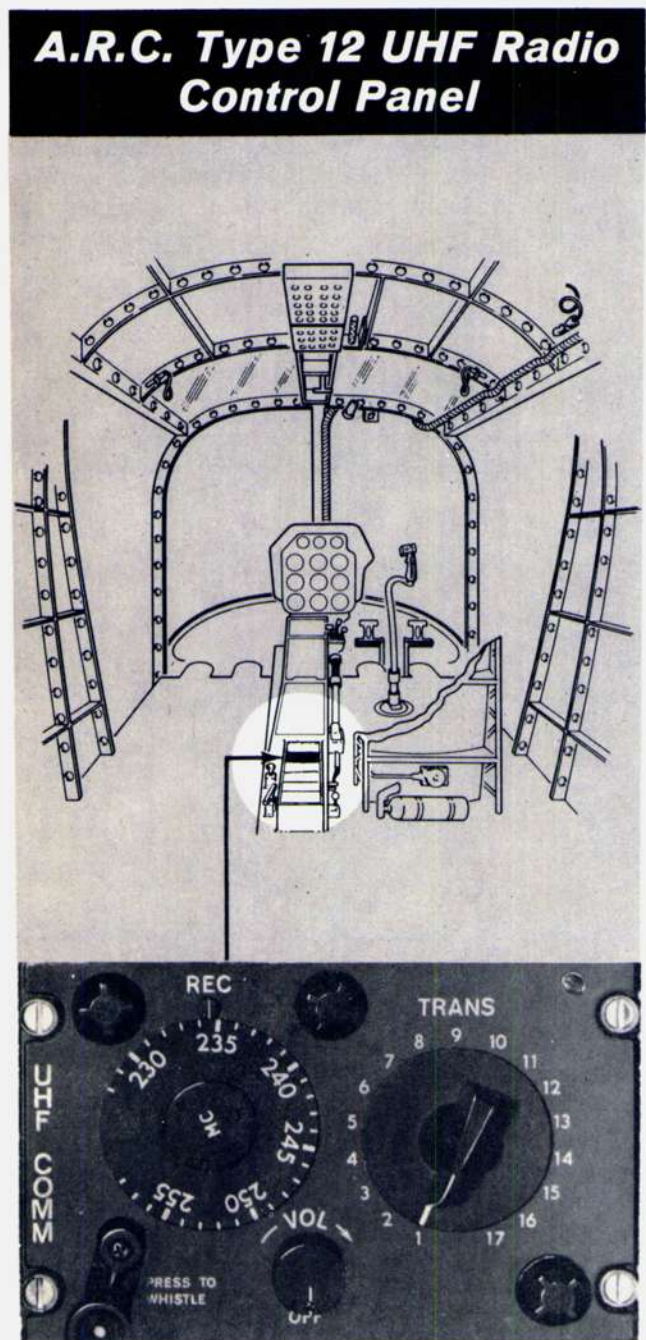

Figure 4-8
**Description.** The intercommunication system provides for speech communication between all crew members and passengers. The system is turned on by the OFF-VOL knob on the UHF control panel (see figures 4-8 and 4-14). ICS volume is not adjustable by the flight crew; if volume is not satisfactory, notify maintenance personnel. Electrical power to operate the system is received from the 28-volt d-c bus through the radio circuit breaker on the circuit breaker panel (figure 1-22).
**Description.** The A.R.C. Type 12 UHF equipment provides crystal-controlled, amplitude-modulated voice transmission and continuously tunable reception in the frequency range of 228 to 258 megacycles. Transmitting channels are selected using the TRANS knob on the control panel (figure 4-8). See figure 4-9 for UHF channelization. Receiving frequencies are shown on the REC dial, and are tuned using the tuning crank at the lower left-hand corner of the panel. Electrical power